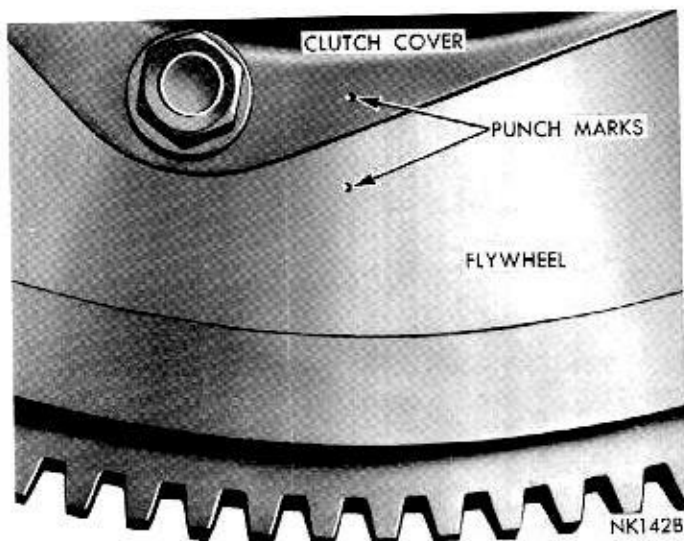

Fig. 7—Marking Clutch and Flywheel
(7) Mark clutch cover and flywheel (Fig. 7) to main-
(4) Install clutch cover attaching bolts (after aligning balance punch marks, (Fig. 7), but do not tighten them. The special 12 point bolts used on 11 inch clutches for 383 cu. in. and larger engines, require no lock washers. The use of lock washers would create interference problems.